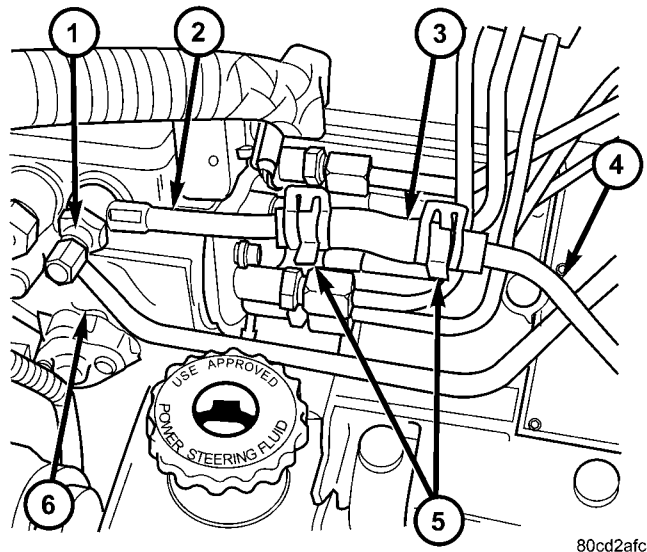

Fig. 1 FUEL HOSE AT FUEL FILTER
3. Remove the rubber fuel hose from the outlet side of the fuel filter (Fig. 1).
- 5 - HOSE CLAMPS (2)
4. Attach a 915 mm (36 in.) clear hose to the fuel filter outlet line (Fig. 1). Do not use the pressure test fitting.